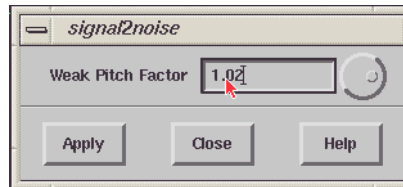

Figure 3-20 Entering the weak pitch factor.
4. **Run the signal2noise ProDeL program.** Click Processing in the menu bar and then ProDeL. You will find signal2noise in the submenu of ProDeL entries. Click signal2noise to start the program. A dialog box pops up asking you to enter the weak pitch factor. Enter the number you copied down from the weak pitch label. Click Apply to continue. (See Figure 3-20.)